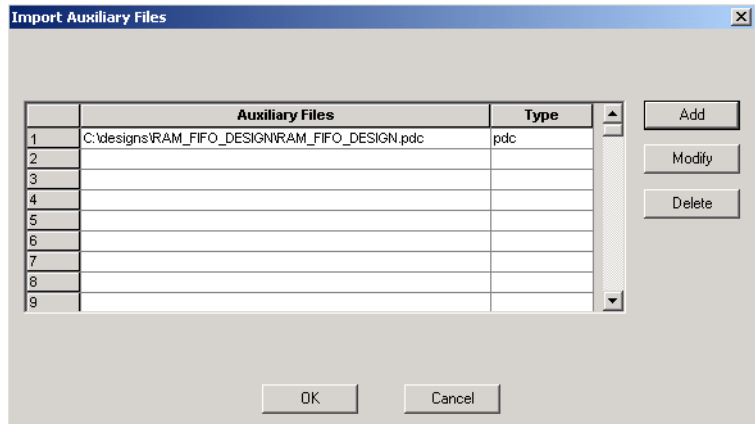

Figure 2-12. PDC File Added to the Import Auxiliary Files Dialog
3. Select the PDC file and click **Import**. The file is added to the **Import Auxiliary Files** dialog box, as shown in Figure 2-12.